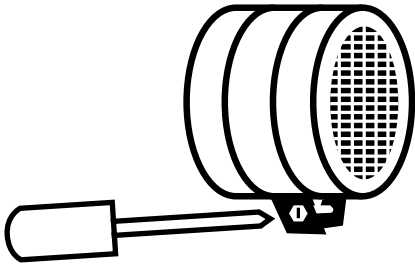

Figure 20: Remove spark arrester
5. Loosen the clamp holding the spark arrestor onto the muffler with a screw driver (see Figure 20).